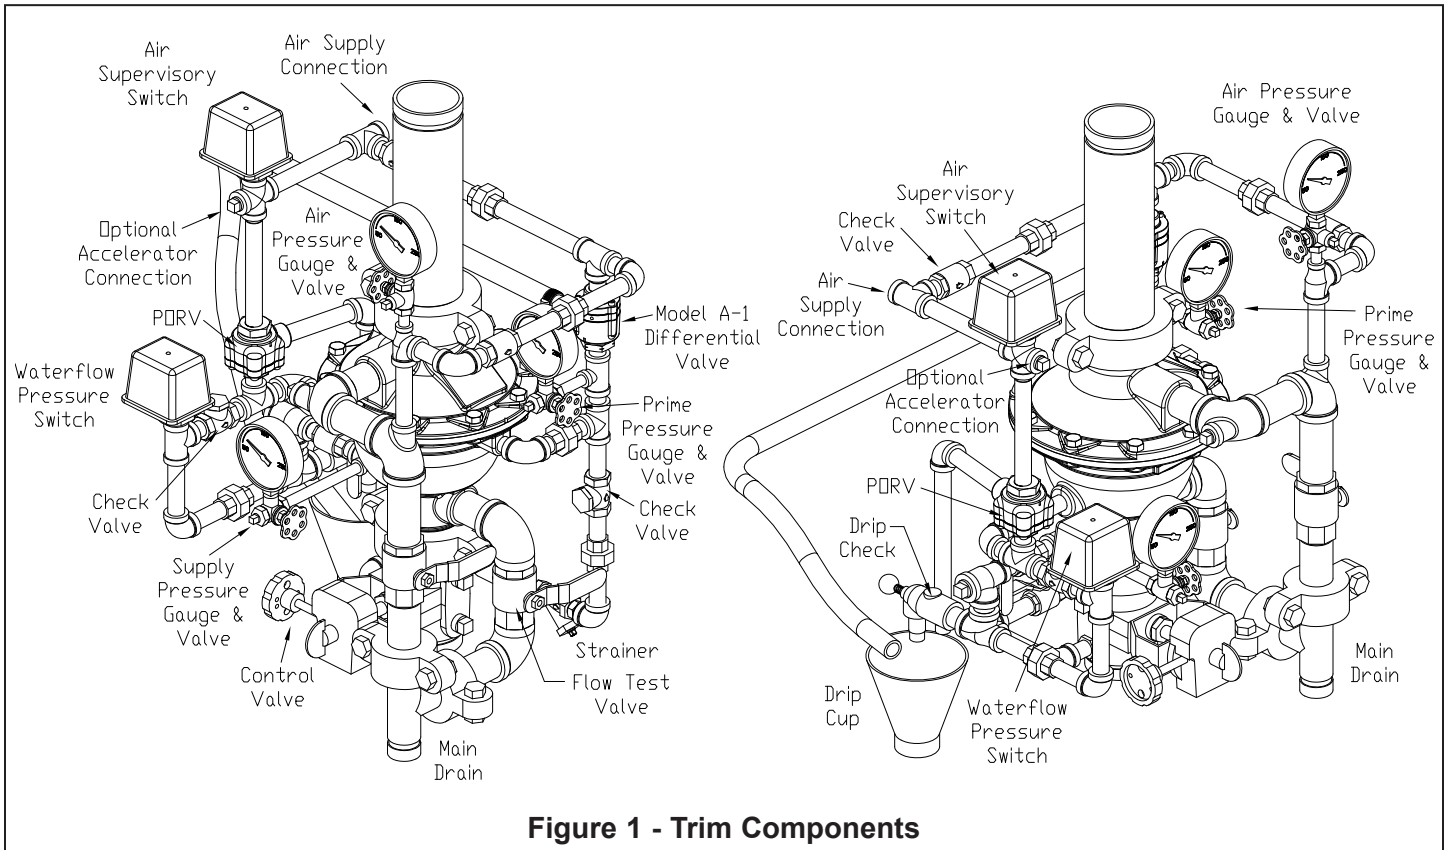

Figure 1 - Trim Components
4. The Viking Model E-1 Accelerator should be installed at the location indicated in Figure 1 when required by the installation standard or local Authority Having Jurisdiction.